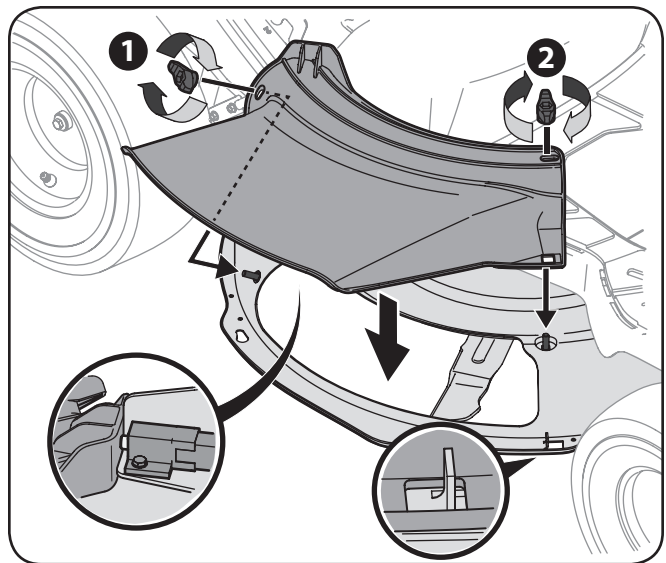

Figure 3-8
- Install the deck chute into the deck discharge opening on the deck. The studs on the deck surface will fit through the holes on the upper portion of the deck chute. The small tab on the deck lip area will fit through the square cutout on the lower portion of the deck chute. See Figure 3-8.
- Secure the deck chute by tightening the wing knobs removed earlier. See Figure 3-8.